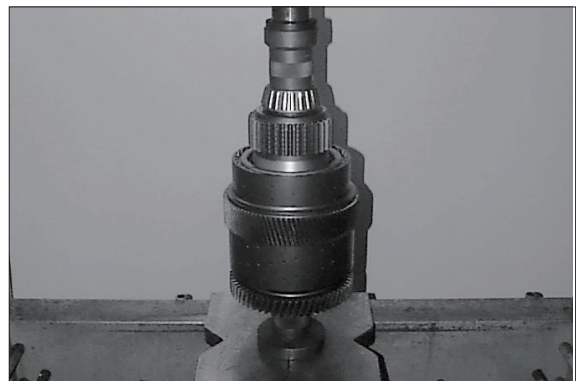

Figure 225
(10) Lift the disc carrier out of the clamping ring (S). To ensure the exact locating of the single components, preload the bearing with 100kN (10 t) (figure 225).